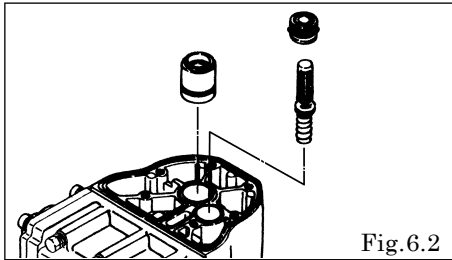

Fig.6.2
- Draw out the pilot valve, spring and valve seat. [Fig.6.2]
- Draw out the throat bearing. [Fig.6.2]